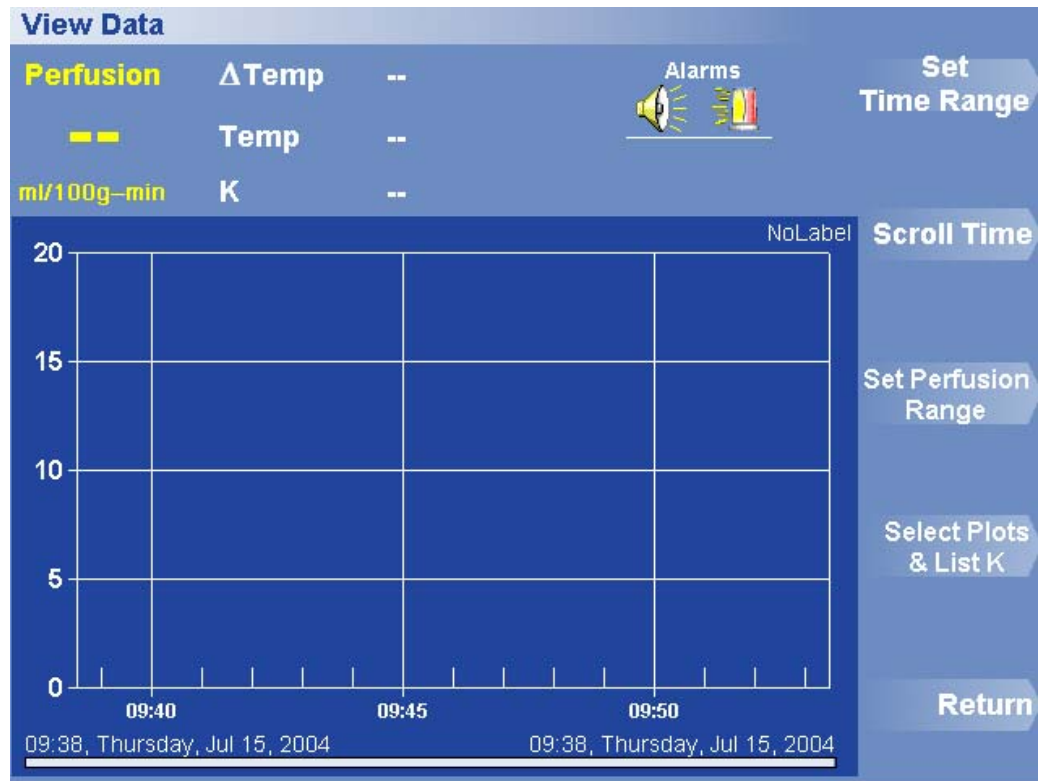

Figure 32. View Data Menu
1. Press Options > View Data. The View Data menu opens (Figure 32).